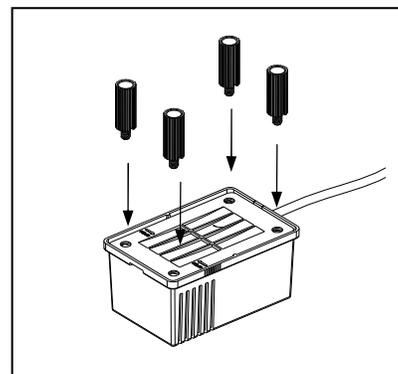

Fig. 9
- If needed, attach the extensions to the bottom of the filter box. Fig. 9